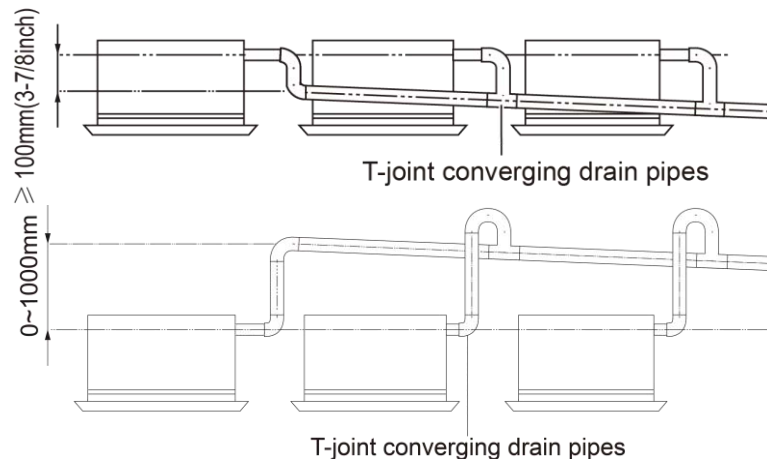

Figure 3-1-51
- (1) Insert the drain pipe to the drain outlet of the unit and then tighten the clamp securely with tape.
- (2) Connect the extension drain pipe to the drain pipe and then tighten the clamp with tape.
- (3) When unifying multiple drain pipes, install the pipes as Figure 3-1-51. Select converging drain pipes whose gauge is suitable for the operating capacity of the unit. (take the cassette type unit for example)